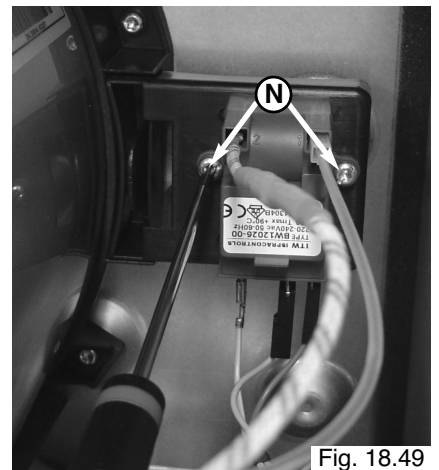

Fig. 18.49
4. Remove the two screws "N" from the ignitor and remove (Fig. 18.49);